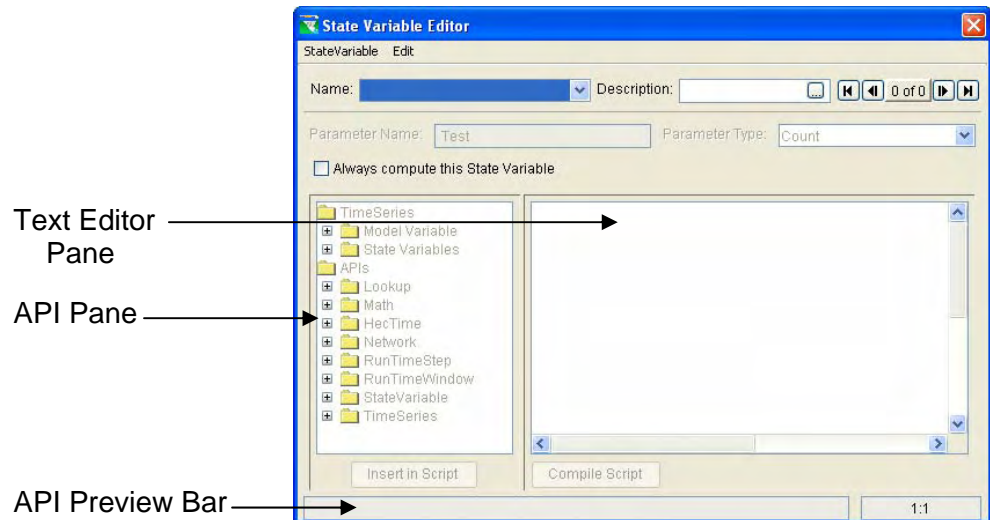

Figure 11.119 State Variable Editor
2. When you select State Variables from the Edit menu, the **State Variable Editor** will open (Figure 11.119).